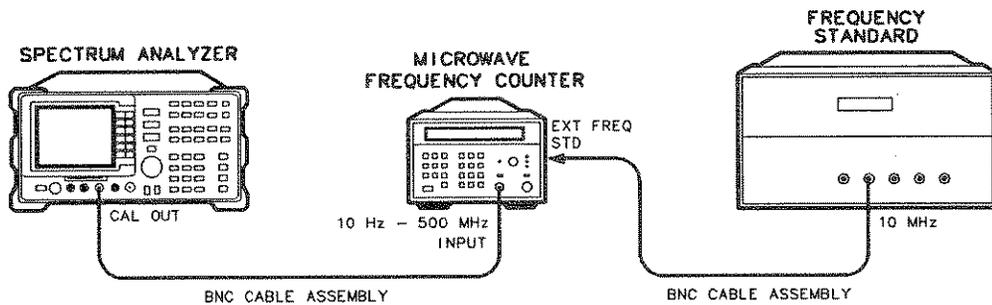

Figure 4-1. 10 MHz Reference Accuracy Test Setup (Standard Reference)
1. Connect the equipment as shown in Figure 4-1.